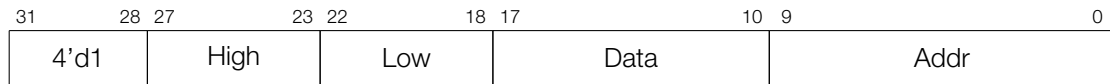

Figure 169: Instruction Type – REG\_WR
**Operand**    **Description** - see Figure 169